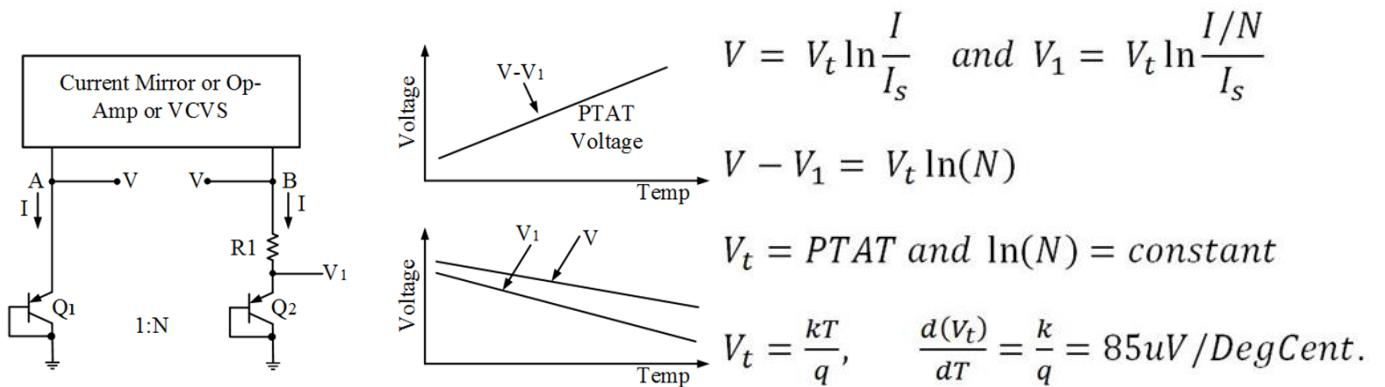

Fig 8. PTAT general block diagram, graph and equation
- As you can observe in the fig8 voltage across V_1 is more negative as parallel current is divided so more sloppy.